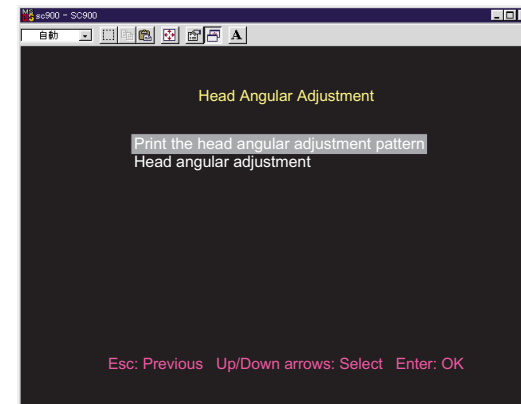

Figure 5-14. Head Angular Adjustment Initial Screen
9. The rest of the procedure includes the steps to follow when the output pattern is NG. By this time, the screen has automatically returned to the Head Angular Adjustment Initial screen (Figure 5-14), where you are to select "Head Angular Adjustment".
34. The screen returns to Head Angular Adjustment Initial screen (Figure 5-14) and the next adjustment can be selected.